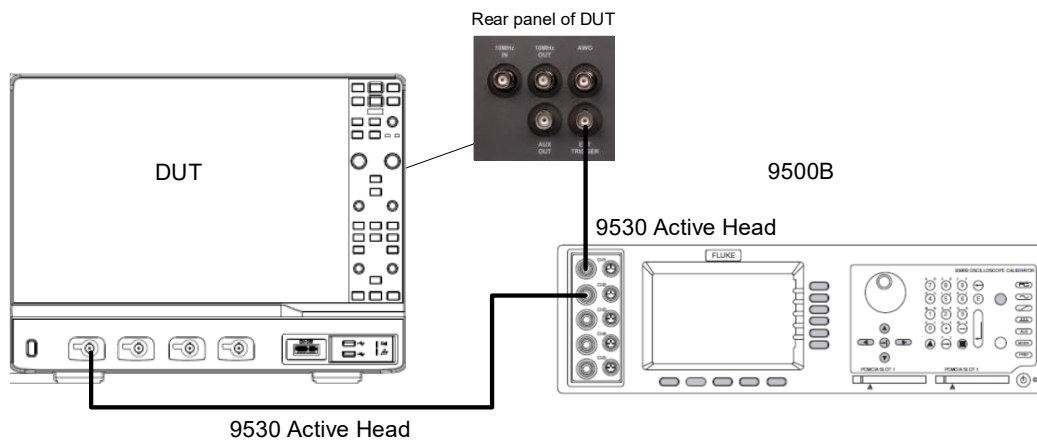

Figure 9 Test setup for Ext trigger level
**Note:** The 9530 active heads in Figure 9 are connected to any two channels of the 9500B. The BNC connector of one active head is connected to CH1 of the oscilloscope, and the one of another active head is connected to the external trigger of the oscilloscope.